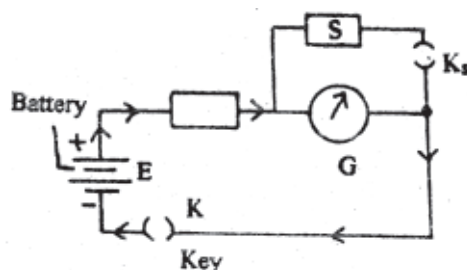

Fig. 29.1
For determination of galvanometer resistance G the circuit is connected as shown in Fig. 29.1 below.
Another important constant of a Galvanometer is I_g , **the full scale deflection** current. I_g is that much current-which deflects the Galvanometer pointer from O to maximum deflection on its scale conversion of a Galvanometer into a voltmeter or an ammeter we must know I_g also. To find the value of I_g again refer to Fig. 29.1. Let the EMF of the battery be E and the value of the resistance connected in series with the Galvanometer and battery be R . Then, the current I flow through the galvanometer which produces a deflection θ in it, is given
- (iv) Place the equipment as shown in Fig. 29.1 and connect them with pieces of DCC wire whose ends have been properly cleaned with sand paper. Take out 5 k ohm key from the resistance box R and insert key K.Adjust R so that the deflection in G is more than 20 (70% of number of divisions in the galvanometer scale) and divisible by 2, say 22.